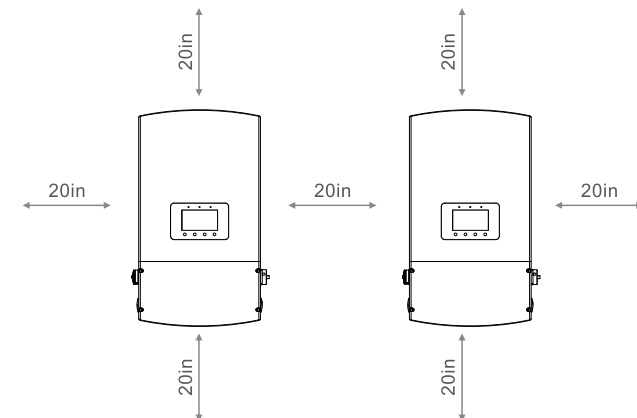

Figure 3.1 – Distances required between inverters
- If multiple inverters are installed on site, a minimum clearance of 20 inches should be kept between each inverter and all other mounted equipment. The bottom of the inverter should be at least 20 inches above of the ground or floor (see Figure 3.1).